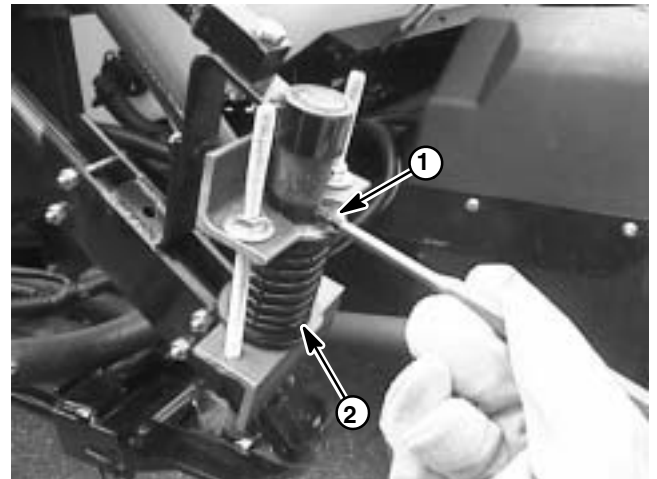

Figure 41
4. Compress spring in breakaway assembly slightly. Drive roll pin from hinge (Fig. 41). Remove flat washer and spring from assembly.